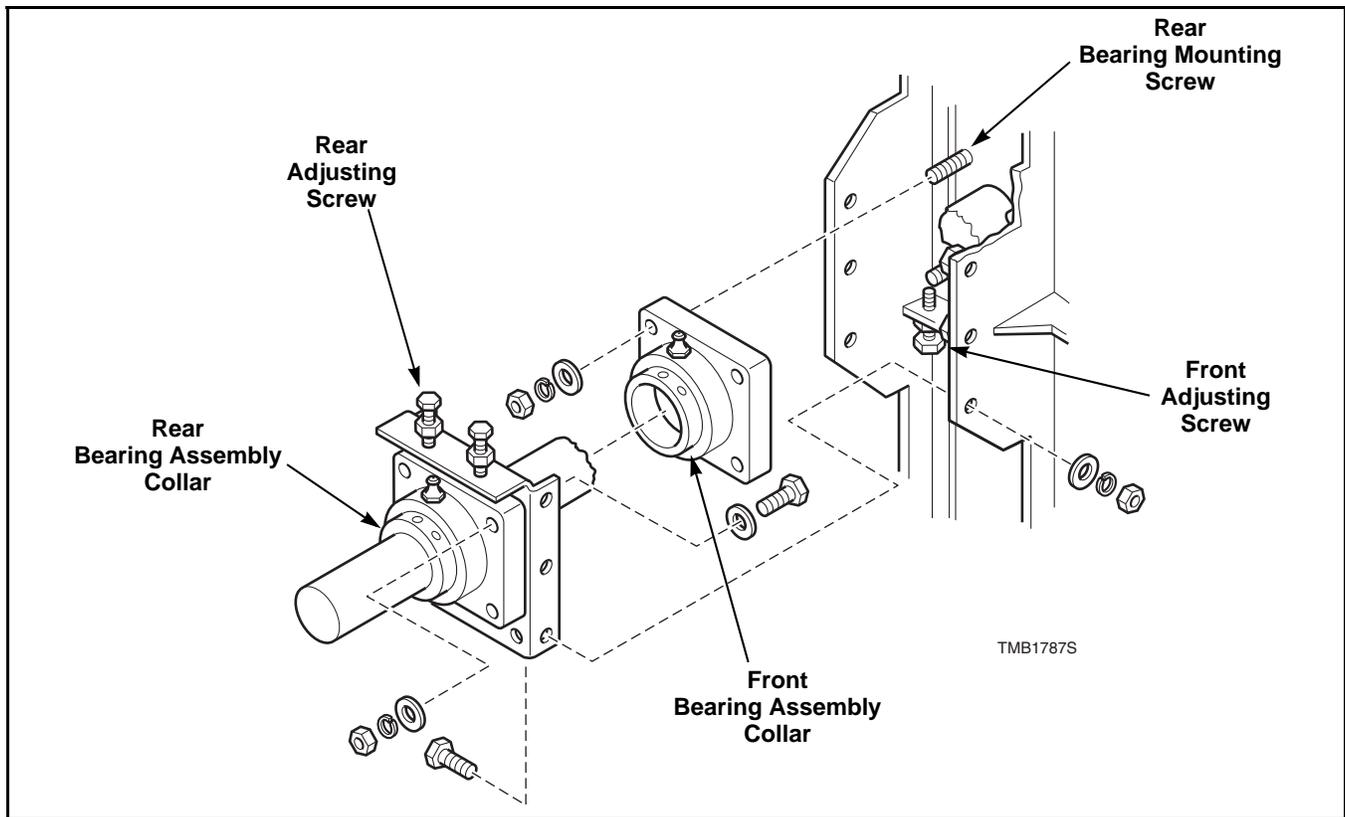

Figure 7
- c. Loosen rear bearing mounting screws. Refer to *Figure 7*.
- d. Loosen the locknuts on rear adjustment screws. Refer to *Figure 7*.
- j. Loosen setscrews in the front bearing assembly collar and rear bearing assembly collar. Refer to *Figure 7*.
Refer to *Figure 7*.
- d. Loosen the two motor bracket pivot screws. Refer to *Figure 7*.
- e. Turn the adjusting nuts clockwise until proper tension is reached. Refer to *Figure 7*.